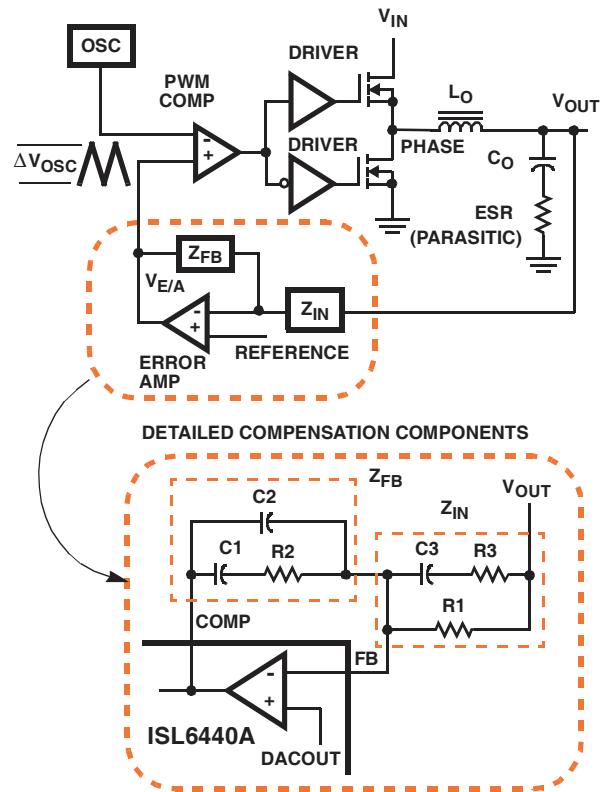
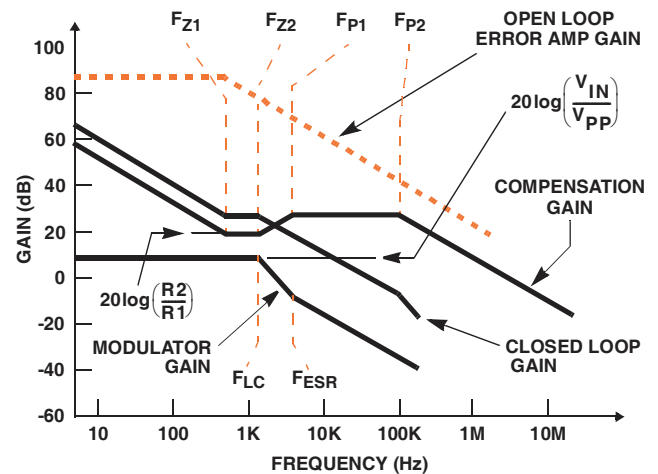

FIGURE 8. VOLTAGE-MODE BUCK CONVERTER COMPENSATION DESIGN
FIGURE 9. ASYMPTOTIC BODE PLOT OF CONVERTER GAIN
Figure 8 highlights the voltage-mode control loop for a synchronous rectified buck converter. The output voltage (V_{OUT}) is regulated to the Reference voltage level. The reference voltage level is the DAC output voltage (V_{DACOUT}). The error amplifier (Error Amp) output ($V_{E/A}$) is compared with the oscillator (OSC) triangular wave to provide a pulse-width modulated (PWM) wave with an amplitude of V_{IN} at the PHASE node. The PWM wave is smoothed by the output filter (L_O and C_O).
Figure 9 shows an asymptotic plot of the DC-DC converter's gain vs. frequency. The actual modulator gain has a high gain peak dependent on the quality factor (Q) of the output filter, which is not shown in Figure 8. Using the above guidelines should yield a compensation gain similar to the curve plotted. Check the compensation gain at F_{P2} with the capabilities of the error amplifier. The closed loop gain is constructed on the log-log graph of Figure 9 by adding the modulator gain (in dB) to the compensation gain (in dB). This is equivalent to multiplying the modulator transfer function to the compensation transfer function and plotting the gain.